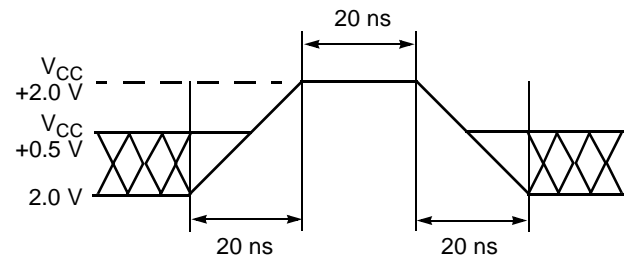

Figure 10. Maximum Positive Overshoot Waveform
1. Minimum DC voltage on input or I/O pins is -0.5 V. During voltage transitions, input or I/O pins may overshoot V_{SS} to -2.0 V for periods of up to 20 ns. Maximum DC voltage on input or I/O pins is V_{CC} +0.5 V. See Figure 10. During voltage transitions, input or I/O pins may overshoot to V_{CC} +2.0 V for periods up to 20 ns. See Figure 11.
2. Minimum DC input voltage on pins A9, OE#, ACC, and RESET# is -0.5 V. During voltage transitions, A9, OE#, ACC, and RESET# may overshoot V_{SS} to -2.0 V for periods of up to 20 ns. See Figure 10. Maximum DC input voltage on pin A9, OE#, ACC, and RESET# is +12.5 V which may overshoot to +14.0 V for periods up to 20 ns.